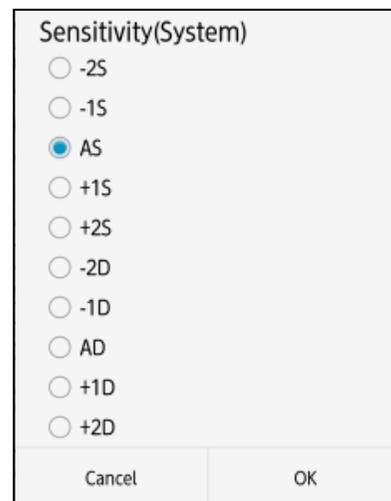

Figure 4-25 Sensitivity setup screen
- (1) Tap Device setting: **[Sensitivity]** menu. Then the sensitivity setup (device) screen Figure 4-25) appears. The mark ● shows the current setting.
- (2) Tap a desired setting, and confirm the mark ● is moved to the selected setting.
- (3) Tap **[OK]** to return to the parameter setup screen. To cancel the setting change, tap **[Cancel]**, then the screen returns to the parameter setup screen without setting change.
- (4) Tap **[Return to the main window]** to return to the main screen.